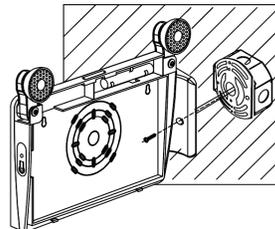

Fig. 5
- c) Connect canopy to junction box mounting plate (Fig. 5).